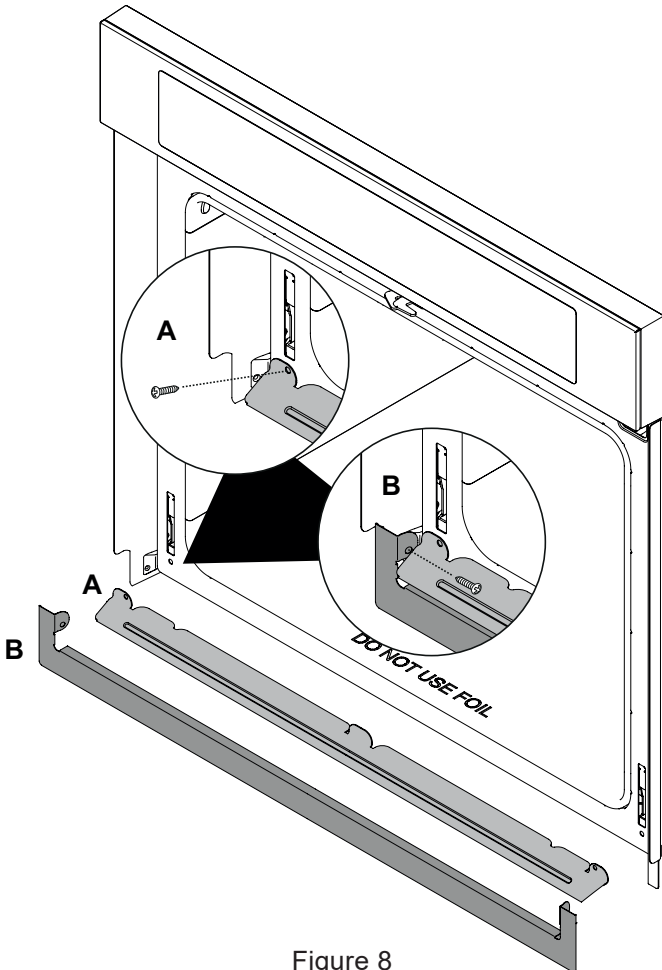

Figure 8
A. Place the air diverter (A) in place as shown in Figure 8. Line up screw locations and attach both ends.
B. Place the color matched trim (B) in place as shown. Line up screw locations and attach both ends.